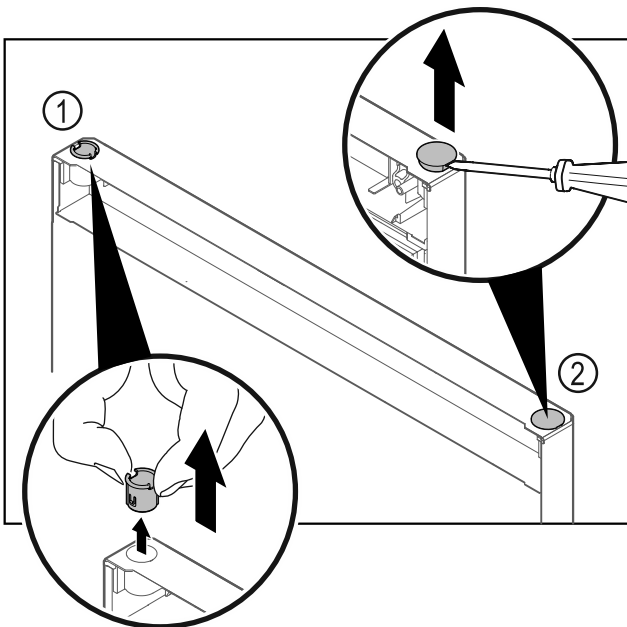

Fig. 23
- ▶ Pull out the hinge bushing Fig. 23 (1) with your fingers.
- ▶ Carefully lift the cover plug Fig. 23 (2) with a slotted screwdriver and pull it out.